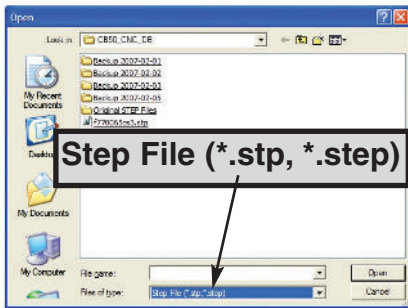

Figure 3
**Software.** State-of-the-art software can allow an engineering department to send a CAD-generated STEP file of the serpentine profile directly to the bender (see Figure 3). This saves time in programming by eliminating the need to key in the data